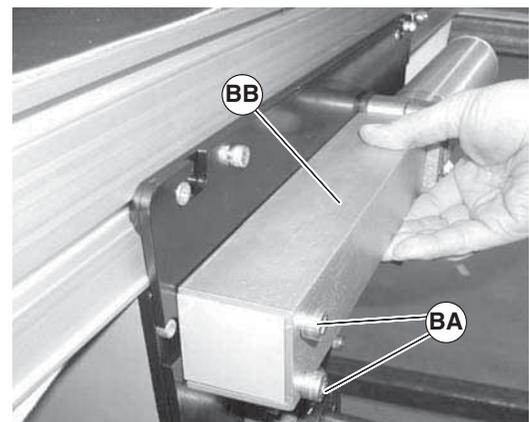

Figure 80
2. Remove screws (Figure 80, item BA) and tensioning guards (BB) from both sides of center drive.